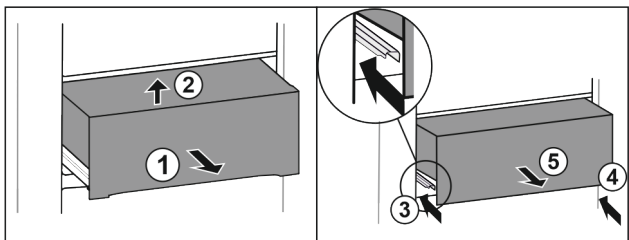

Fig. 30
- ▶ Pull out the drawer halfway. Fig. 30 (1)
- ▶ Lift drawer at the front. Fig. 30 (2)
- ▶ Slide in left rail. Fig. 30 (3)
- ▶ Slide in right rail. Fig. 30 (4)
- ▶ Remove drawer to the front. Fig. 30 (5)